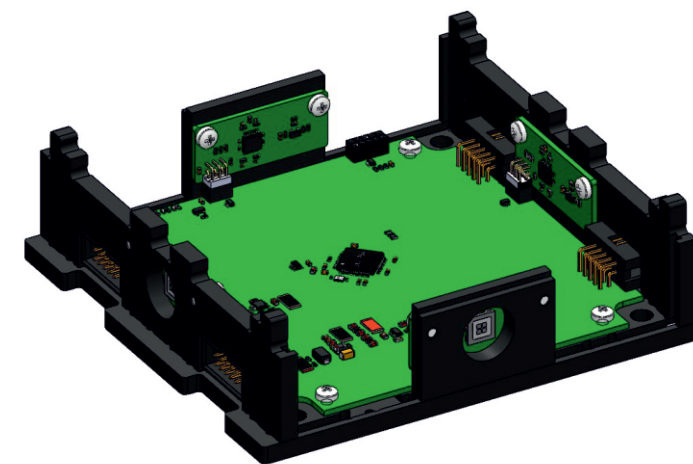

Fig. 13: Connecting a bracket-mounted sun sensor board with the general-purpose board
3) Secure sun sensor boards #2 and #4 to brackets using two M3x6 screws on both sides and connect them to the general-purpose circuit board. To do that, align bracket protrusions with holes in the base plate and latch them. While assembling the connection, mate sun sensor connectors with receptacles on the general-purpose circuit board marked as “Sensor 2” and “Sensor 4” respectively (Fig. 13):